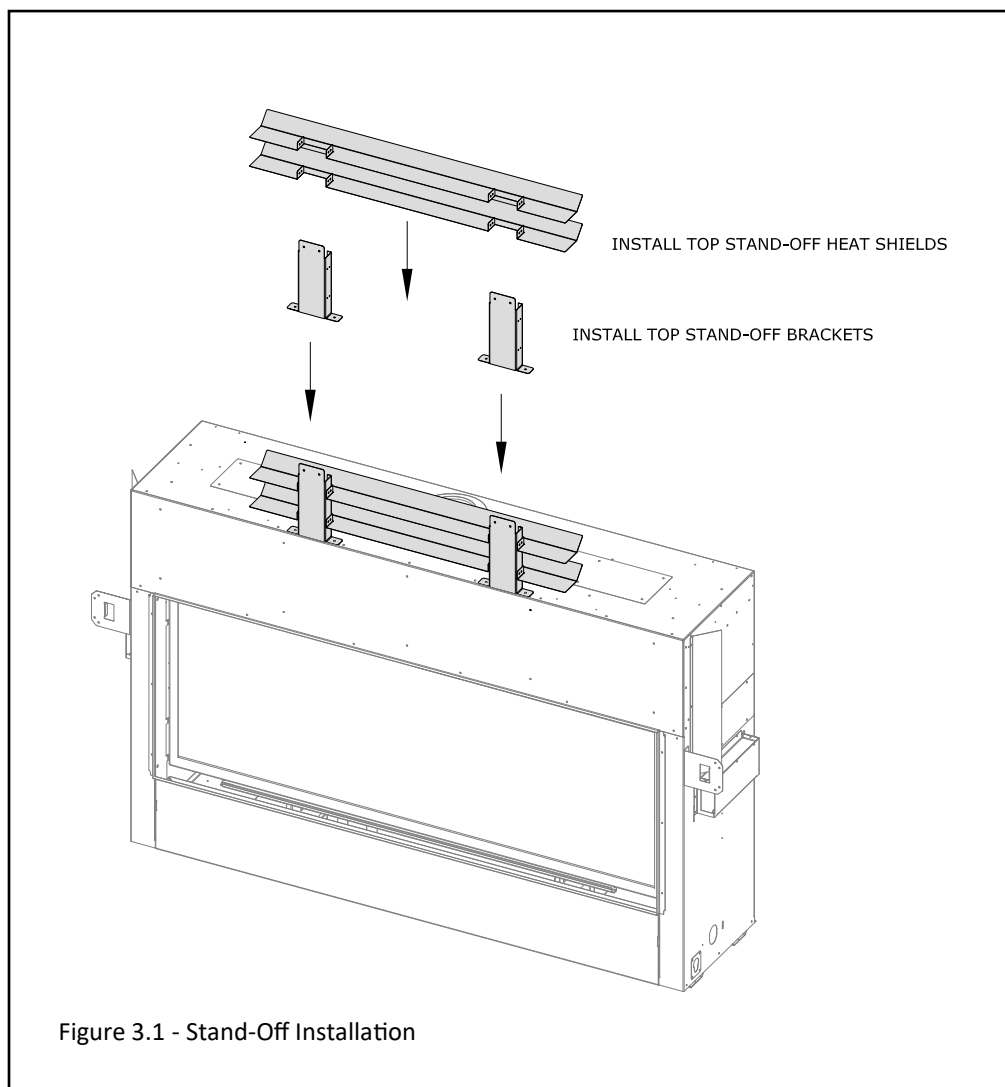

Figure 3.1 - Stand-Off Installation
4. Attach the horizontal heat shields to the top stand-off brackets with the (8) screws as shown in Figure 3.1.